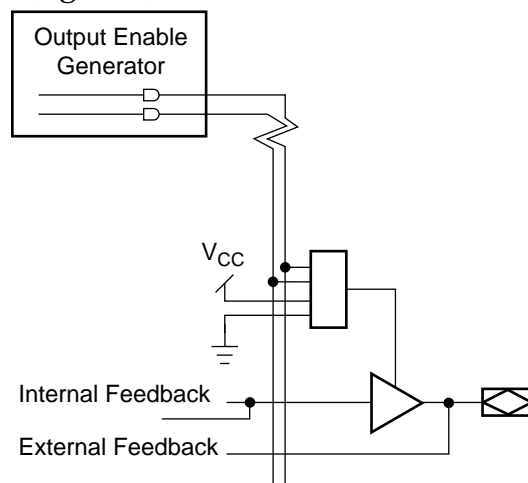

Figure 6. Output Enable Generator and I/O Cell
There is one output enable (OE) generator per PAL block that generates two product-term driven output enables. Each I/O cell is simply an output buffer. Each macrocell within the PAL block can choose to be permanently enabled, permanently disabled, or choose one of the two product term output enables per PAL block (Figure 6).